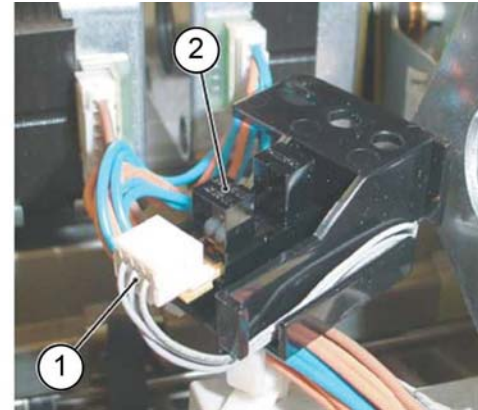

Figure 4 Front tamper home sensor removal
9. Remove the front tamper home sensor, **Figure 4**:
- a. Disconnect the connector (1).
- b. Remove the front tamper home sensor (2).